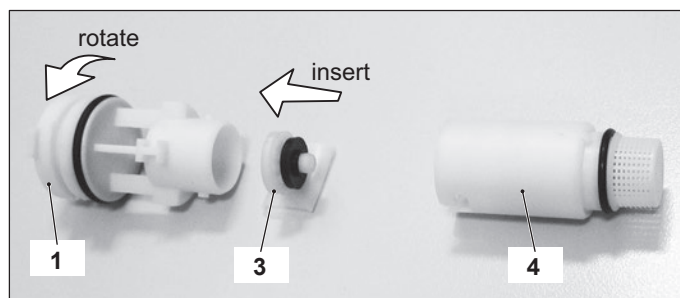

Figure 14.5
- 4 To remove the body "4" with the filter from the flow switch group rotate the flow switch plug "1" (Figure 14.5).
- 2 Rotate the flow switch plug "1" to separate it from the body "4" (Figure 14.5).
- 3 Insert the flow limiter "3" as shown in Figure 14.5.